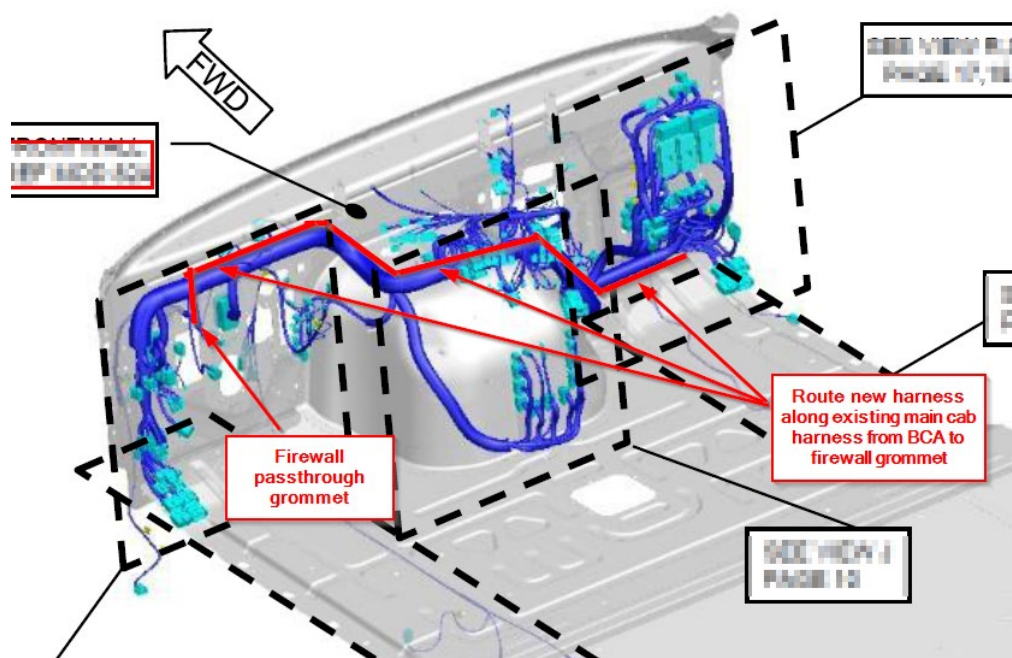
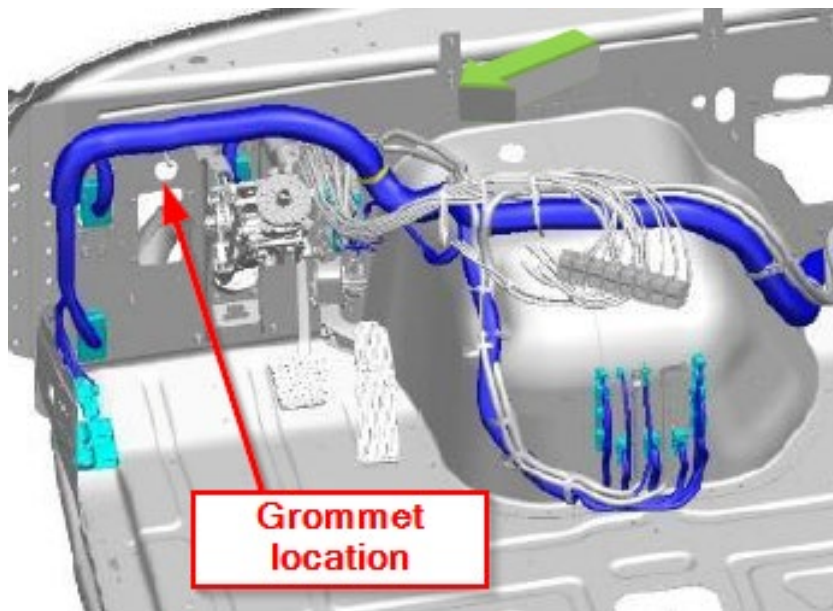

Fig. 6, New BCA Harness Routing
Fig. 7, Firewall Pass-Through Grommet Location
- 9.2. Route the new harness alongside the main cab harness as shown in **Fig. 6**. Run the harness from the BCA box to the front wall grommet located above and to the left of the steering wheel, as shown in **Fig. 7**. Use cable ties to secure the new harness to the main cab harness as needed.